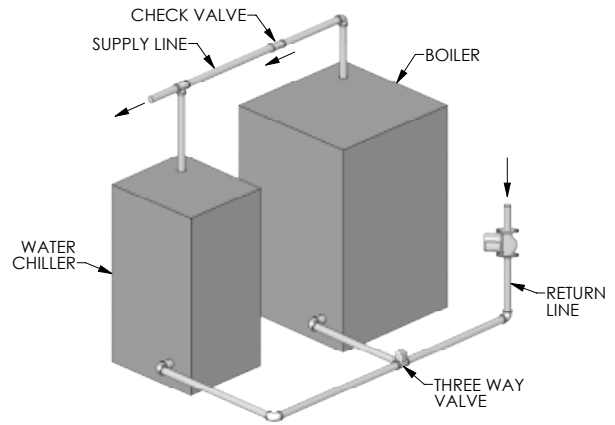

Figure 3.7: Isolating Boiler from Chilled Medium on Chiller Systems
6. If the boiler is to be used in conjunction with a refrigeration system, the chilled medium shall be piped in parallel with boiler and proper valves applied to prevent the chilled medium from entering the boiler. Refer to Figure 3.7.